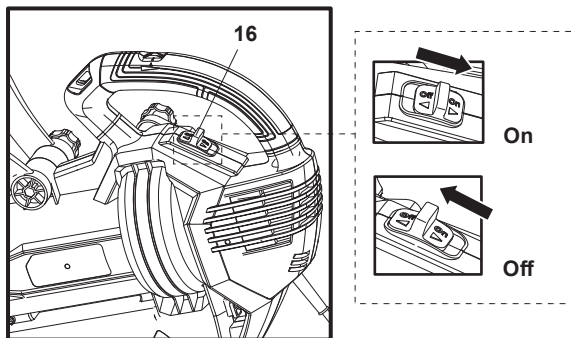

Fig. 9
- Slide the on/off switch (16) backward (from operator's perspective) to switch the product on (Fig. 9).
- Slide the on/off switch (16) forward (from operator's perspective) to switch the product off.